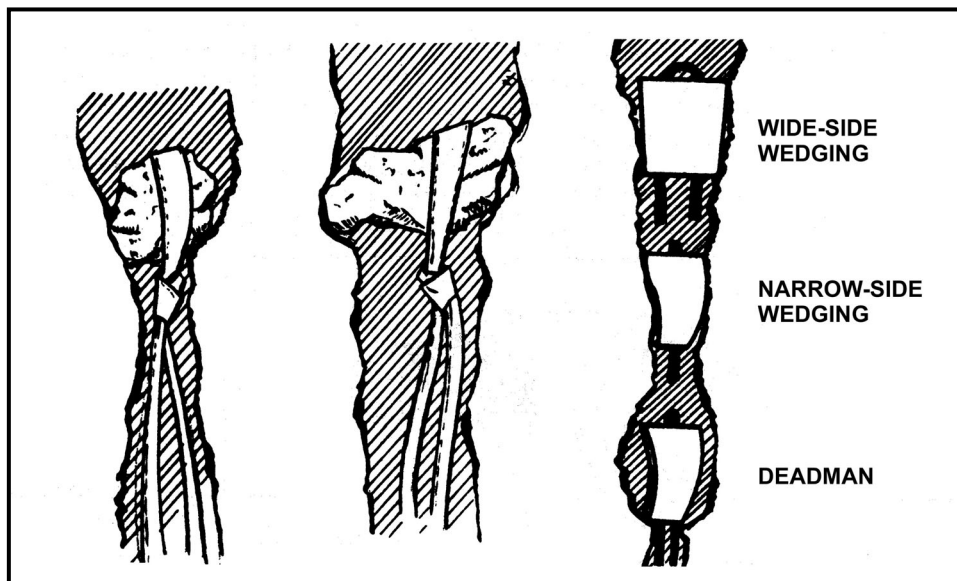

Figure 5-15. Chock placements.
c. **Placement.** The principles of placing chocks are to find a crack with a constriction at some point, place a chock of appropriate size above and behind the constriction, and set the chock by jerking down on the chock loop (Figure 5-15). Maximum surface contact with a tight fit is critical. Chocks are usually good for a single direction of pull.
(1) Avoid cracks that have crumbly (soft) or deteriorating rock, if possible. Some cracks may have loose rock, grass, and dirt, which should be removed before placing the chock. Look for a constriction point in the crack, then select a chock to fit it.
(2) When selecting a chock, choose one that has as much surface area as possible in contact with the rock. A chock resting on one small crystal or point of rock is likely to be unsafe. A chock that sticks partly out of the crack is avoided. Avoid poor protection. Ensure that the chock has a wire or runner long enough; extra ropes, cord, or webbing may be needed to extend the length of the runner.
(3) End weighting of the placement helps to keep the protection in position. A carabiner often provides enough weight
(4) Parallel-sided cracks without constrictions are a problem. Chocks designed to be used in this situation rely on camming principles to remain emplaced. Weighting the emplacement with extra hardware is often necessary to keep the chocks from dropping out.